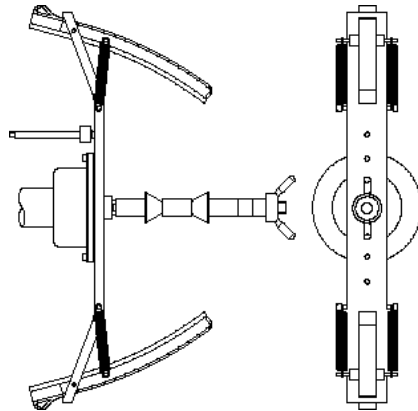

Fig.F4.2 Application of sample weight on the internal side of the motorcycle flange on the shaft (Cal2 phase)
8. At the end of the launch, the machine will display the writing $\hat{U} N O = \hat{\ } i$. Apply the calibration weight on the internal side as shown in Figure F4.2. The calibration weight is to be applied on the hole that has the writing "CAL" marked on it;
9. Bring the motorcycle flange in perfect vertical position with the calibration weight at the top part as shown in figure F4.2 and press the [P8]  Start or lower the wheel guard.